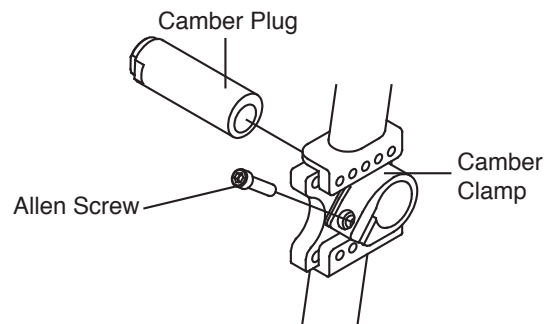

Figure 50
2. Loosen, but do not remove, the Allen Screw that secures each camber plug to each camber mount clamp. See Figure 50. If you are adjusting the rear wheel spacing, only loosen the screw enough to permit the camber plug to slide in and out of the camber mount clamp and skip to Step 5 below.